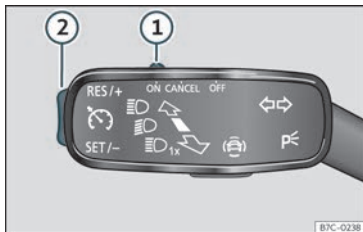

Fig. 206 On the turn signal lever: controls for operating the GRA.
- Move the control »» Fig. 206 ① to **ON**.
- Press button »» Fig. 206 ② in area **SET/-**.
- Move the control »» Fig. 206 ① to **CANCEL** or step on the brake.
- Press button »» Fig. 206 ② in area **RES/+**.
While the GRA is set, the stored speed can be adjusted with button »» Fig. 206 ②:
- To increase in increments of 1 km/h (1 mph) briefly press button »» Fig. 206 ② in the area **RES/+**.
- To increase the speed without interruption, keep button »» Fig. 206 ② pressed down in the area **RES/+**.
- To reduce in increments of 1 km/h (1 mph) briefly press button »» Fig. 206 ② in the area **SET/-**.
- To reduce the speed without interruption, keep button »» Fig. 206 ② pressed down in the area **SET/-**.
- Move control »» Fig. 206 ① to **OFF**.